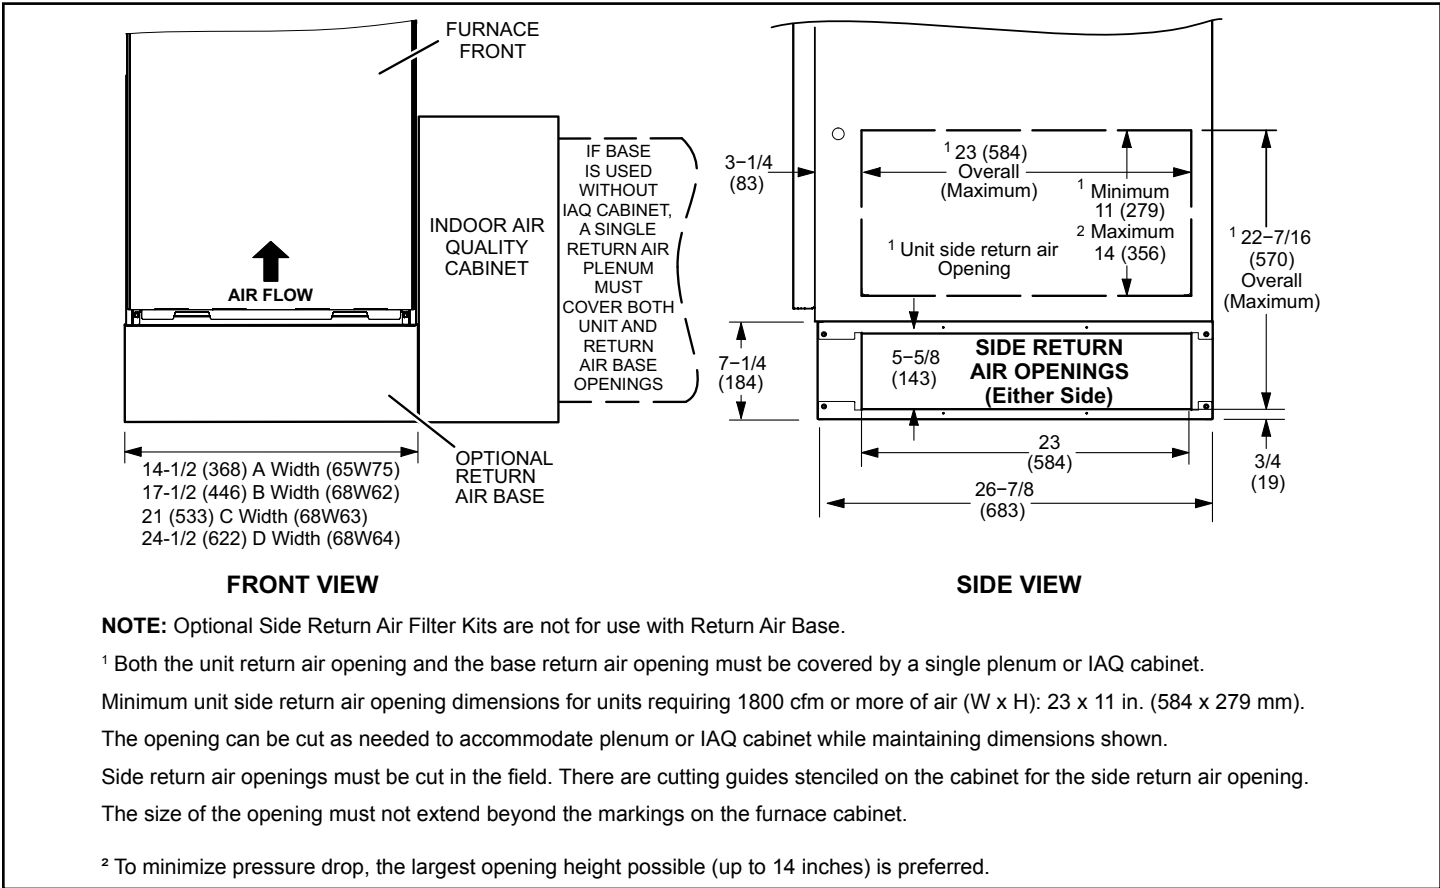

Figure 12. Optional Return Air Base (Upflow Applications Only - For Use with A, B, C and D Cabinets)
2. Single side return air with optional return airbase. See Figure 12.